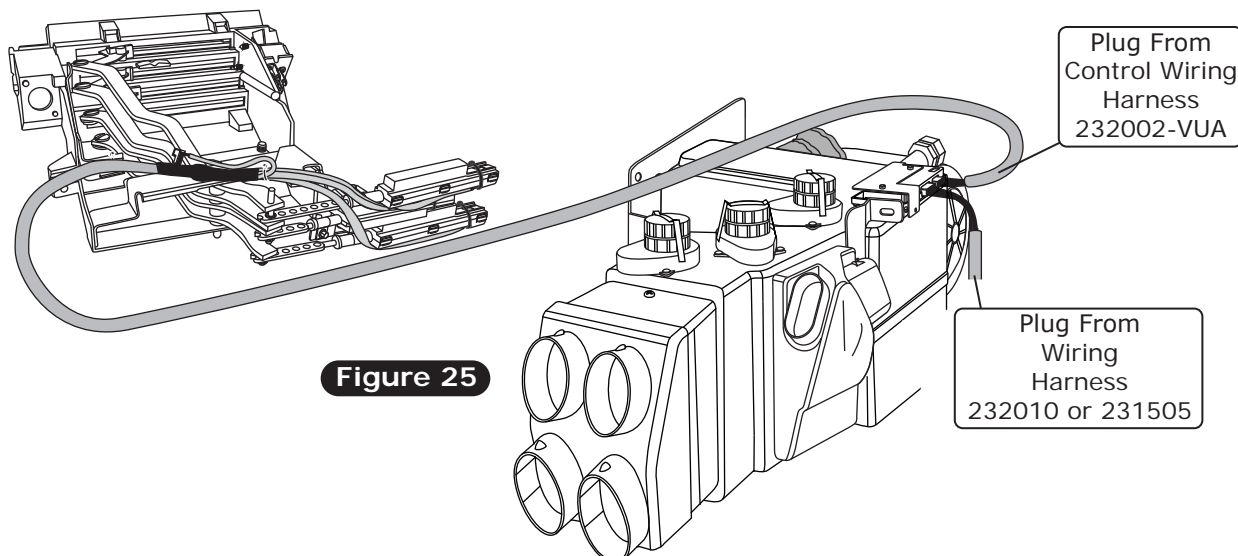

Figure 25
2. Plug the wiring harnesses into the ECU module on the sub case (See Figure 25, below).